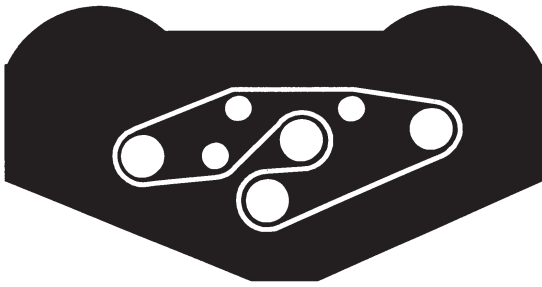

Figure 32
5. Route the new belt around the spindle pulleys and idler pulley assembly, as shown in Figure 32.